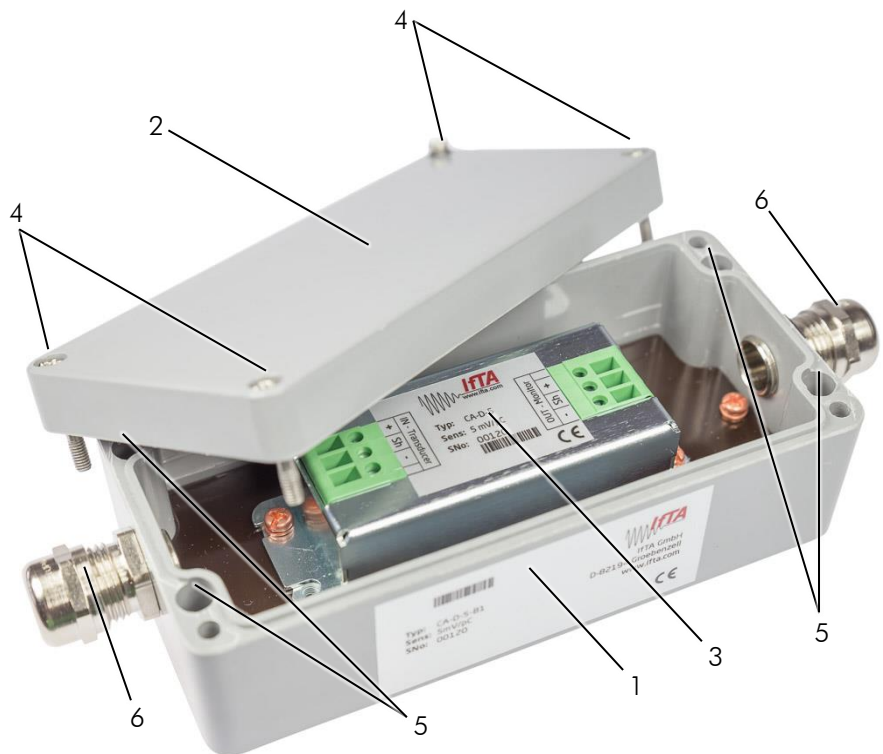

Figure 4: Layout of the industrial housing (figure similar, subject to modification)
- (1) Choose a vibration-free place for the mounting.
- (2) Remove the cover of the industrial housing by unscrewing the four cover screws (see *Figure 4*).
- (3) Use the four fixing points (see *Figure 4*) to mount the housing on a suitable surface.
- (4) Continue with the steps described in the chapter below.
- (1) Loosen the stuffing glands (see *Figure 4*).
- (2) Pass the cables through the stuffing glands into the designated position.
- (3) Tighten the stuffing glands and verify that the cables are securely fastened by the stuffing glands to ensure a proper sealing.
- (4) Continue with the next chapter to connect cables to the charge amplifier.